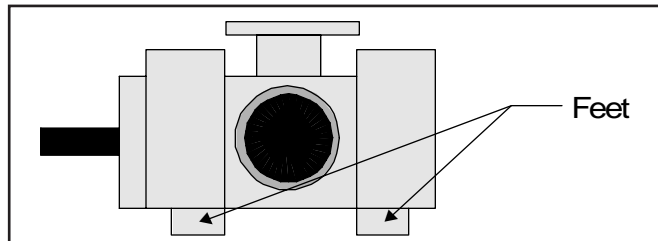

Figure 3 – Foot Mounted Pump
D.6.3 Aligning Foot Mounted Pumps, See Figure 3